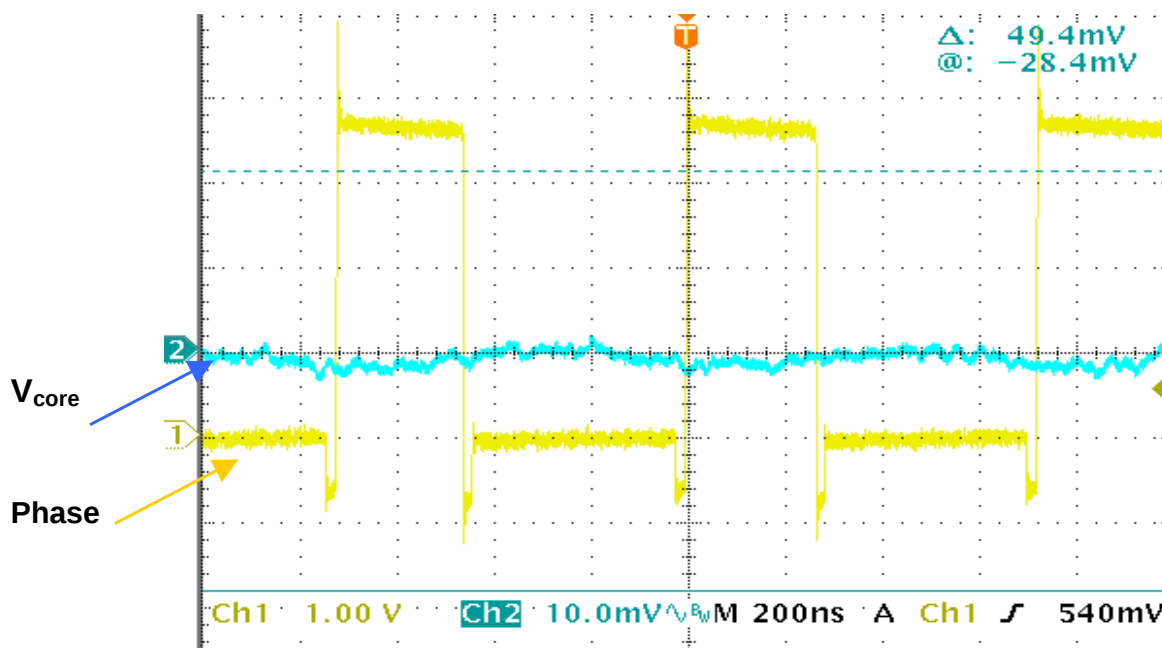

FIGURE 8. V_{CORE} AND PHASE
The phase node is a good signal point from which to trigger and observe cycle-by-cycle switching behavior of the Vcore regulator. Connect the trigger channel to the TP2 probe point to trigger on the phase signal. See **Figure 8** for a typical scope shot of the Vcore voltage(AC) when triggered from the phase node.